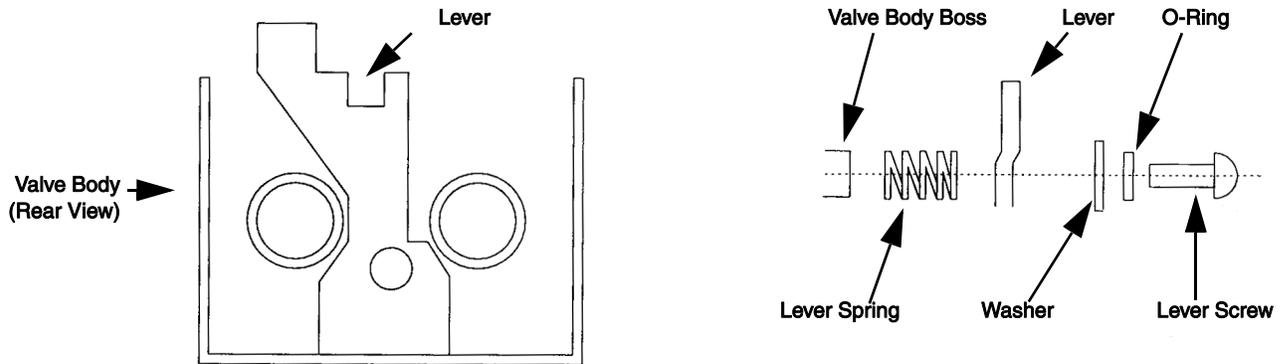

Figure 3
11. Place lever spring over valve body boss (see Figure 3).
12. Assemble Self-Serve Lever onto valve body by inserting top end of lever (switch actuation end) through slot on bottom of valve body and positioning hole in lever over valve body boss (see Figure 3).